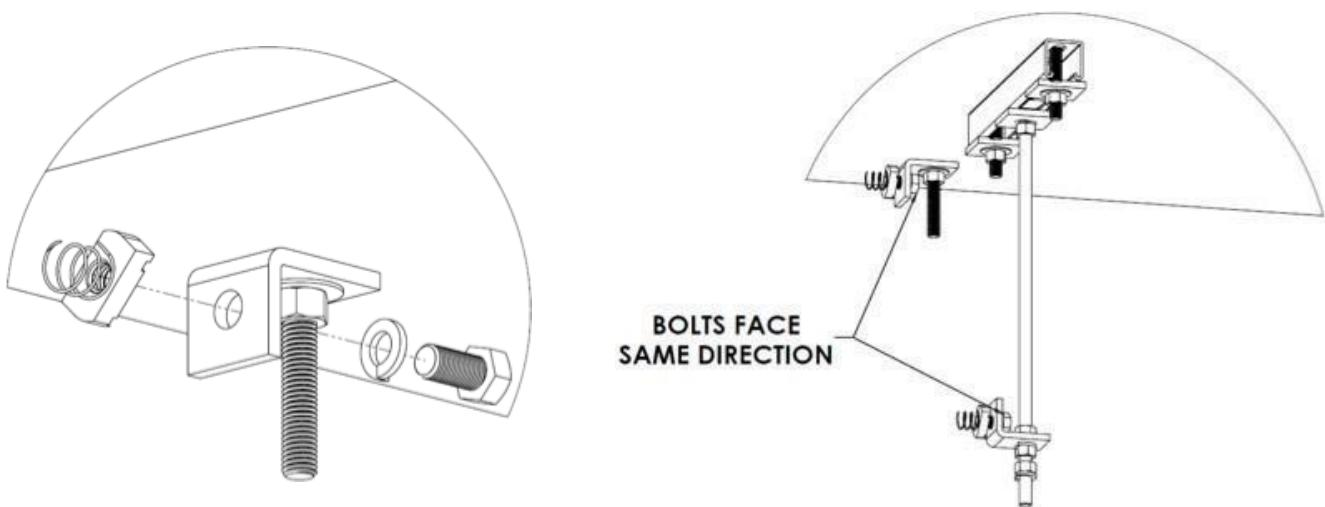

Figure 264: **Correct Orientation of Bolt Heads**
8. Make sure the bolt head is oriented the same as the bolt installed in step 2b (Figure 264).